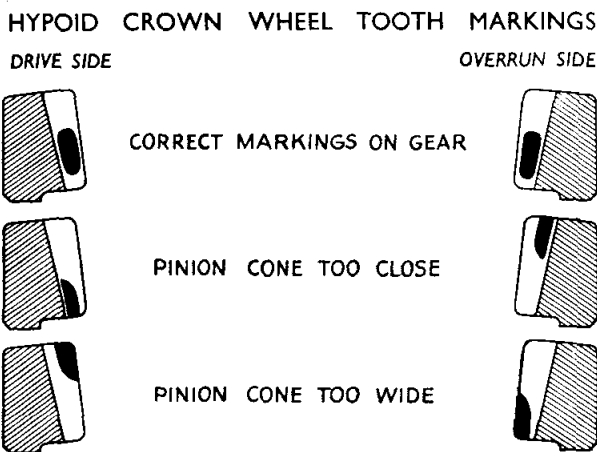

Fig. 33
- (xxvii) A tooth marking test should now be carried out, and to enable this to be done a few teeth should be painted with a suitable marking compound. The pinion should be rotated backwards and forwards by the driving flange, over the marked teeth on the crown wheel, and the markings compared with the diagram (Fig. 33), and the instructions on this diagram regarded.